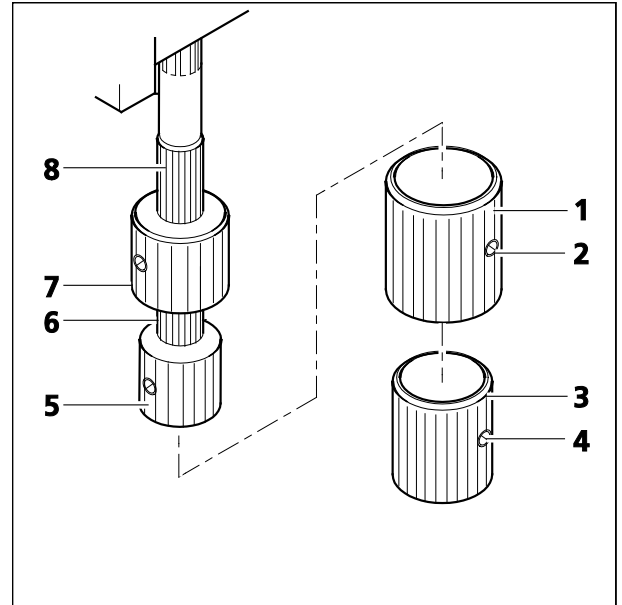

Fig. 65 Setting the ergonomic drive
- First, loosen the two clamping screws (Fig. 65/4) on the bottom additional sleeve (Fig. 65/3) and remove the latter downwards, then loosen the two clamping screws (Fig. 65/2) on the top additional sleeve (Fig. 65/1) and pull it down as well.
(1) Adjusting the x direction
- Remove the additional sleeves (Fig. 65/1 and 3) from the drive knobs if necessary. Loosen the clamping screws to do so.
- Push the x drive knob (Fig. 65/5) down and the y drive knob (Fig. 65/7) up.
- Hold the x drive knob (Fig. 65/5) and turn the light knurled ring (Fig. 65/6) above it clockwise (easy action) or counterclockwise (sluggish action) until the desired torque is achieved.
(2) Adjusting the y direction
- Hold the y drive knob (Fig. 65/7) and turn the light knurled sleeve (Fig. 65/8) above it clockwise right (sluggish action) or counterclockwise (easy action) until the desired torque is achieved.